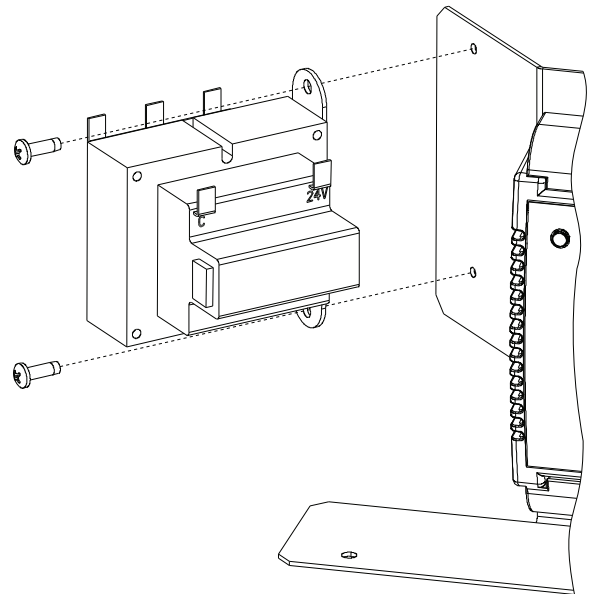

Fig. 23 — TruVu Transformer Mounting
IMPORTANT: Ensure the TruVu 24Vac transformer leads are oriented as shown in Fig. 23, with the 24V leads positioned at the front and the high-voltage leads at the rear of the assembly. This orientation is required for safety purposes. Do not install the transformer in the opposite direction.
2. Locate two No. 8 screws and mount the TruVu 24vac Transformer to the mounting bracket. (See Fig. 23.)